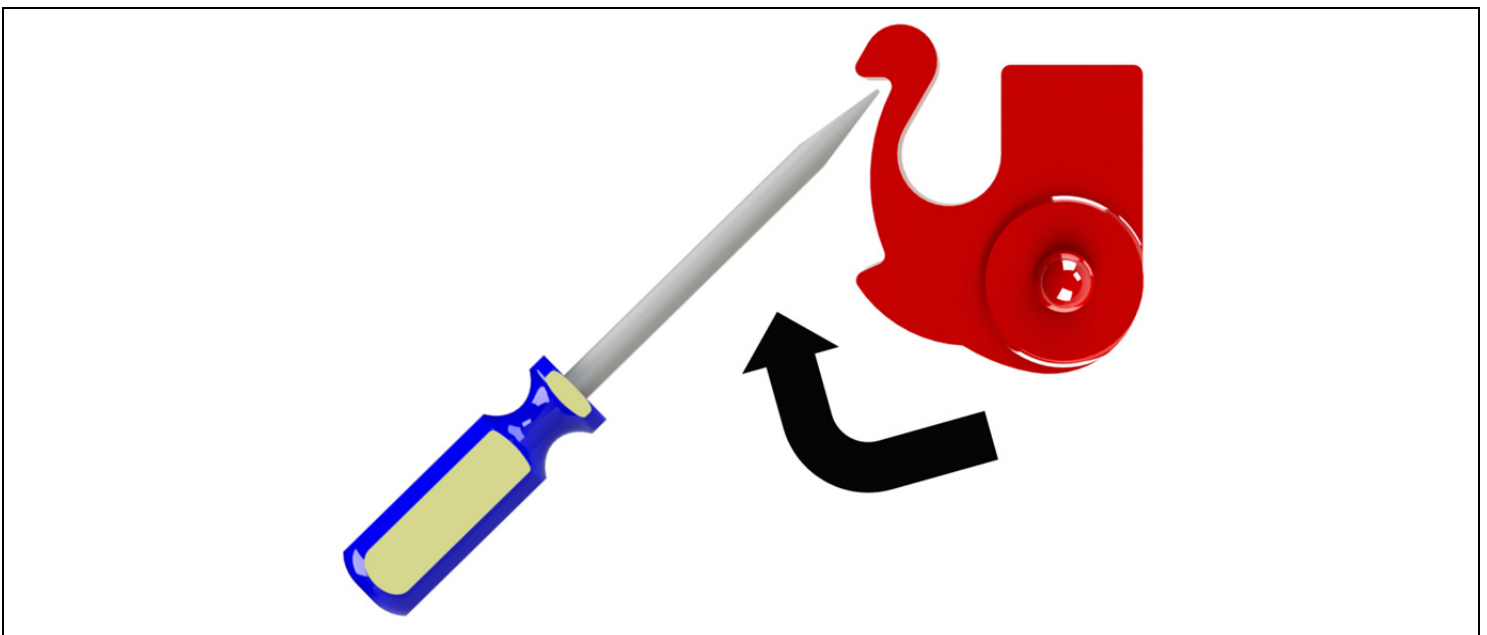

Figure 28. Assembly Step 5
5. Locate the bearing clips at either end of the driveline. Insert a flat head screwdriver into the groove indicated in *Figure 28*, below. While pressing inward on the arm of the bearing clip, rotate the bearing clip in the clockwise direction.